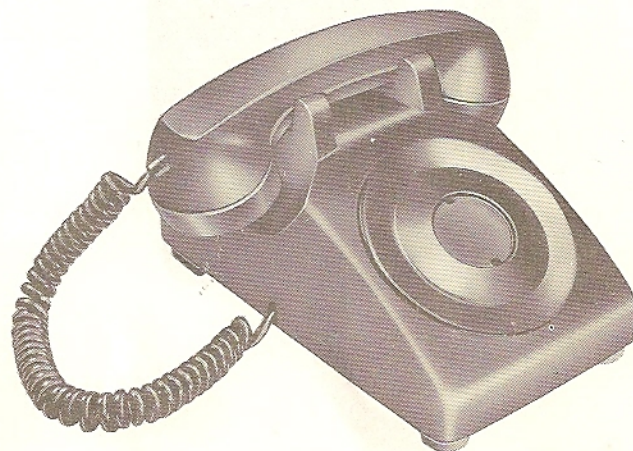
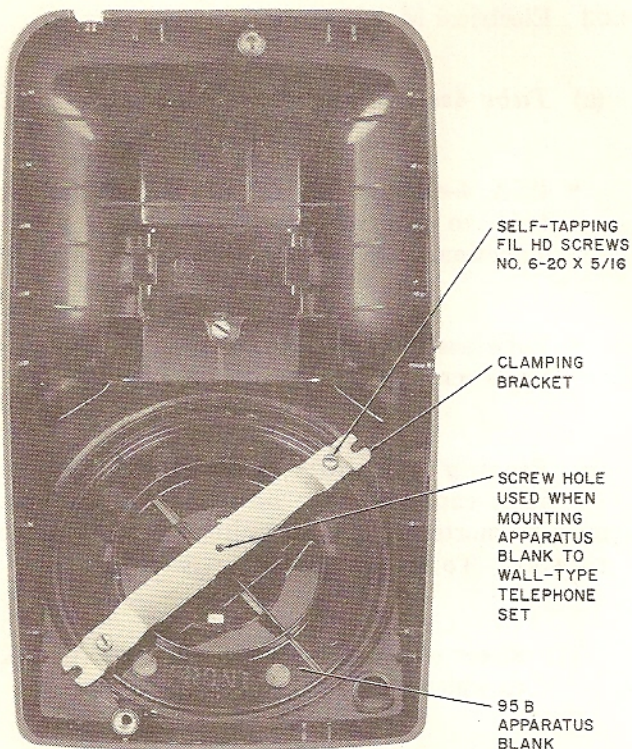

Fig. 15 — 500-Type Telephone Set With 95B or 95C Apparatus Blank, Exterior
Fig. 16 — 500- and 501-Type Telephone Set With 95B Apparatus Blank, Interior
- (2) 95B (Fig. 15)
- Can be used in all sets (Fig. 16, 17, and 18).
- (3) 95C
- Same external appearance as 95B (Fig. 15).